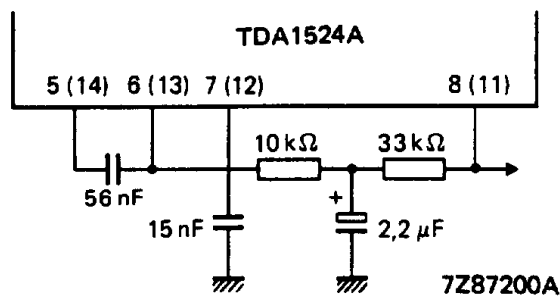

Fig.3 D.C. feedback with filter network for improved signal handling.
D.C. output levels (pins 8 and 11) under all control voltage conditions with d.c. feedback (Fig.3)
Signal handling with d.c. feedback (Fig.3)